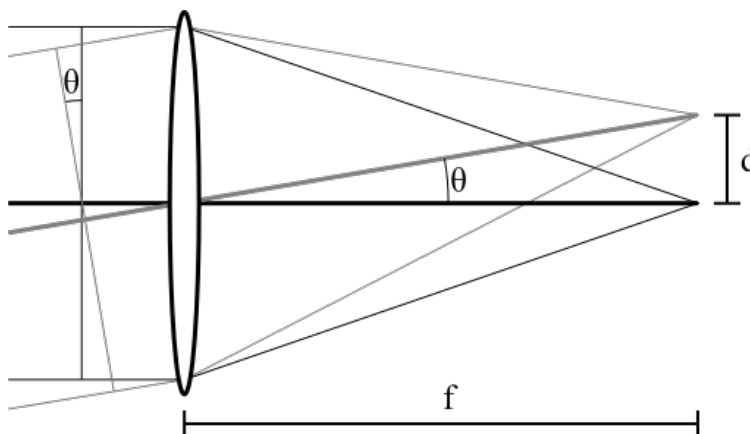

Fig. 2.— Tilted wavefronts converge at displaced points in the focal plane.
If a wavefront is tilted relative to the optical axis, after the lens the light will converge at a point that is displaced in the focal plane (Fig. 2).
**Q1:** By what distance  $d$  is the focus displaced for a lens with focal length  $f$  given a wavefront tilt angle  $\theta$ ? (see Figure 2.) In the small angle approximation?